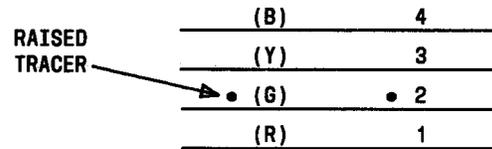
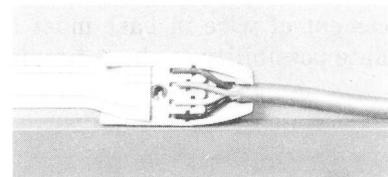

Fig. 1—Conductor Identification of B Station Wire
Fig. 10—Terminating Wire in No. 721 Transition
- (6) Always match the wire pairs when making a tap, splice, or extending a wire run to ensure correct polarity of conductors.
- (7) Identification of individual conductors may be determined by locating the raised tracer dot on the surface of the B station wire and counting the conductors as shown in Fig. 1.
- (8) Conventional station wiring colors [(BK), (Y), (G), (R)] assigned to the conductors in relation to the tracer are shown in Fig. 1. The associated numbers relate to the designations in the terminals, terminal base, etc.
- (1) Remove paper liner from back of transition.
- (2) Select location and press adhesive side of transition to mounting surface.
- (3) Remove cover.
- (4) Place B station wire in channel, butting end of wire against center stop (Fig. 10).
- (5) Remove approximately 3/4 inch of outer jacket from the D station wire. Insulation from individual conductors need not be removed. Match each conductor with the 3 station wire for correct polarity (Fig. 1) and place in wire grooves in base of transition (Fig. 10).
- (6) Place cover and tighten screw until cover is seated to base of transition.